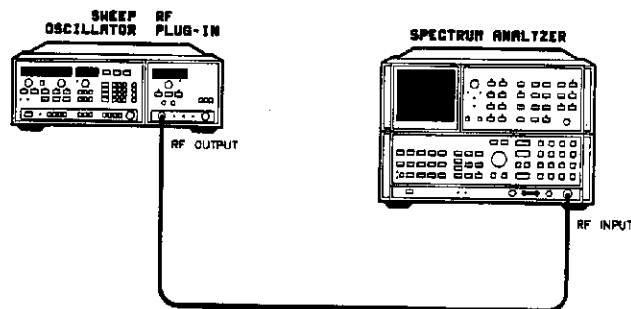

Figure 4-8. Spurious Signal Test Setup
1. Connect the equipment as shown in Figure 4-8. Press **[INSTR PRESET]** on both the sweep oscillator and the spectrum analyzer. Allow the equipment to warm up for one hour. Allow one hour warm up time.